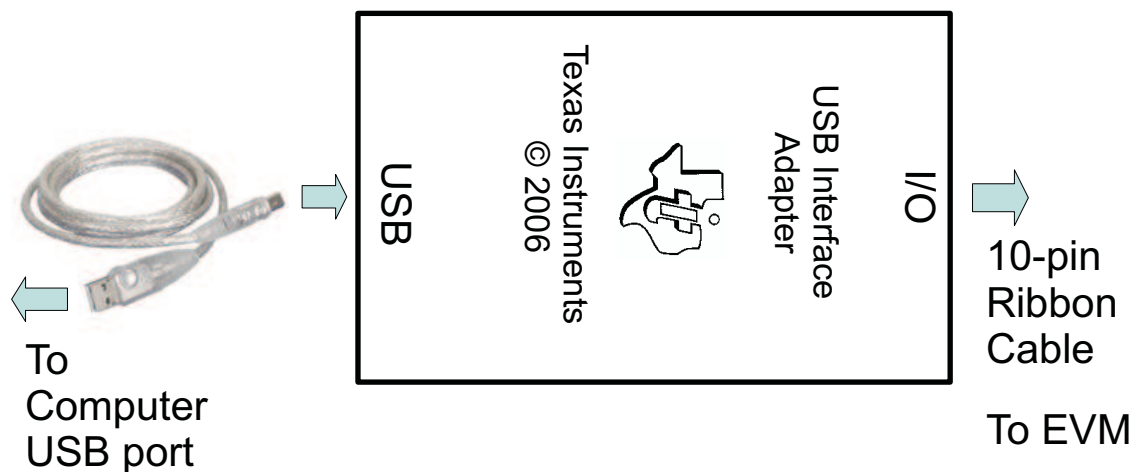

Figure 1. Connections of the HPA172 Kit
- (A) Set the power supply #1 for $5V \pm 100mV$ DC, $2.0 \pm 0.1A$ current limit and then turn off supply.
- (B) Connect the output of power supply #1 in series with a current meter (multimeter) to J1 (DC+, DC-).
- (C) Connect a voltage meter across J1 (DC+, DC-).
- (D) Connect the Load #2 in series with a current meter (multimeter) to J2 (BAT+, BAT-). Make sure a voltage meter is connected across J2 (BAT+, BAT-). Turn on the Load #2. Use the constant voltage mode. Set the output voltage to 2.5V.
- (E) Turn off Load #2.
- (F) Connect J5 to HPA172 kit by 10-pin ribbon cable. Connect the USB port of the HPA172 kit to the USB port of the computer. The connections are shown in Figure 1.